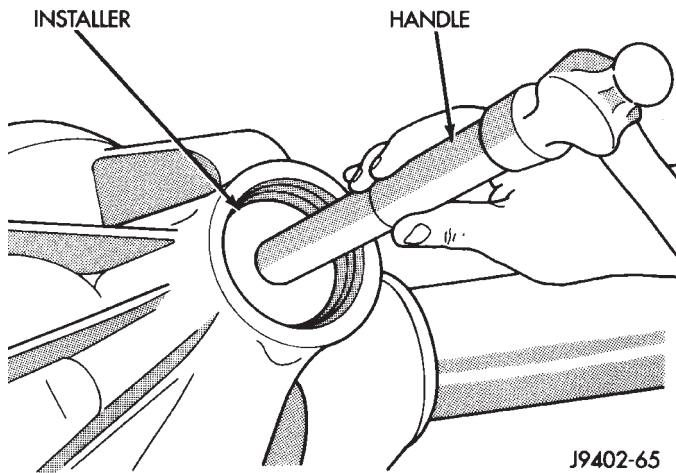

Fig. 48 Pinion Outer Bearing Cup Installation
(3) Apply Mopar® Door Ease, or equivalent, stick lubricant to outside surface of front pinion bearing cup. Install the bearing cup with Installer D-130 and Handle C-4171 (Fig. 48).